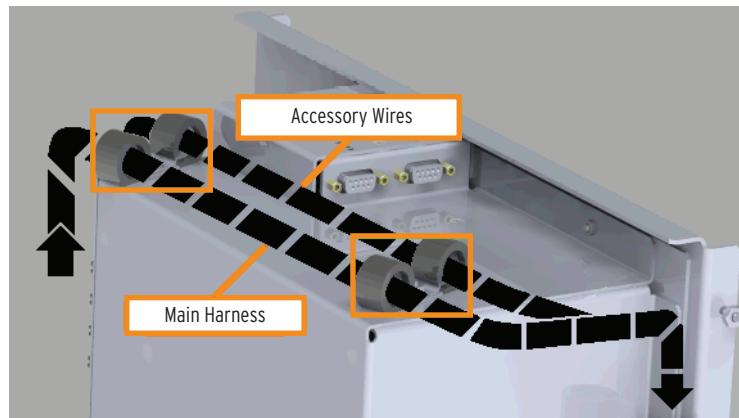

**Figure 2 Form Drip Loop and Route Harness Wires**
Step 1. Form a drip loop and route the harness wires to the left toward the 14-pin connector. See *Figure 2*.